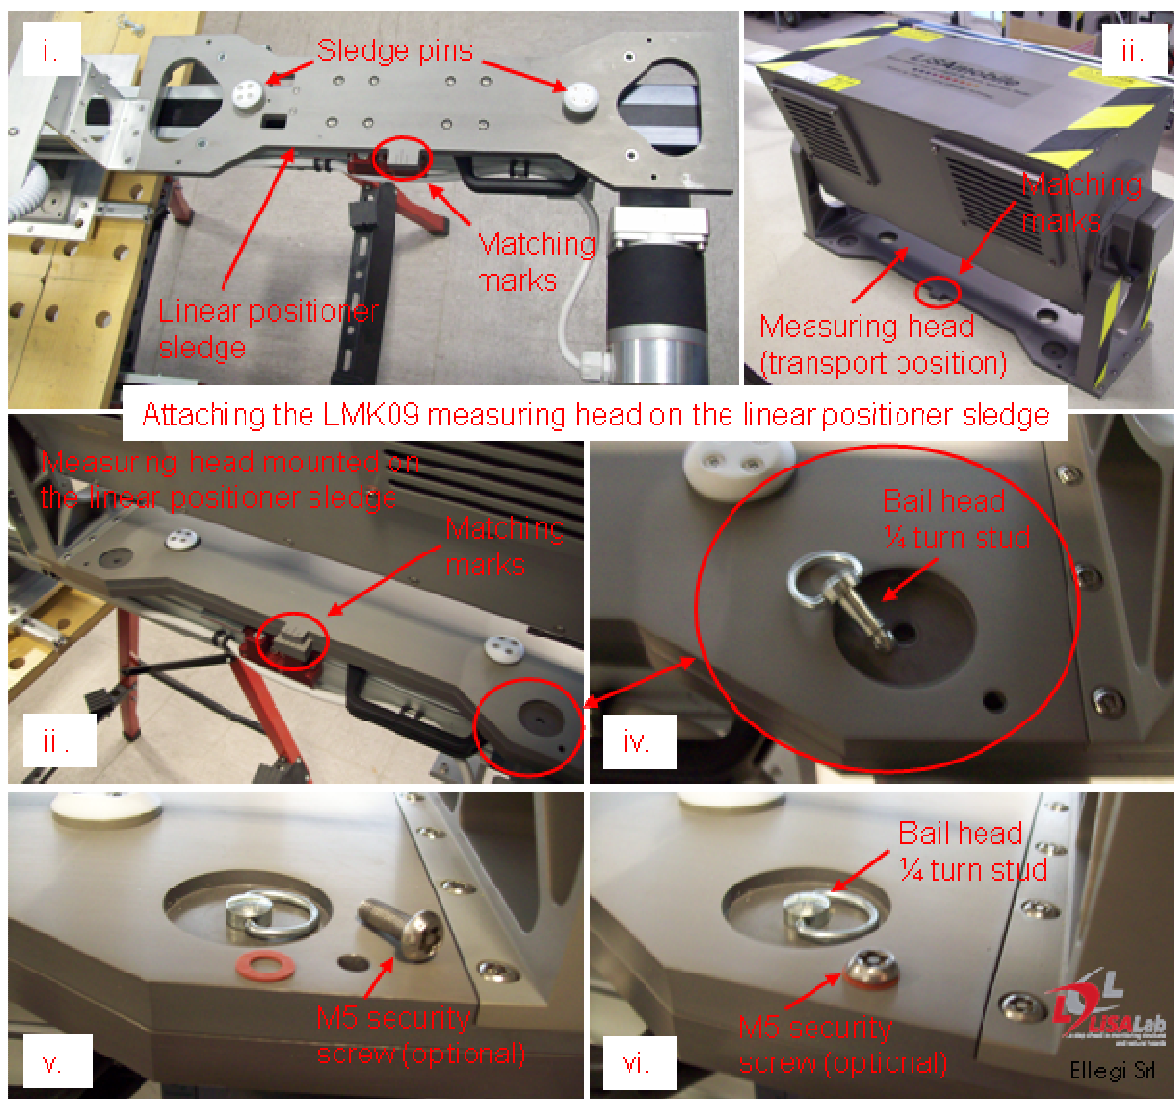

Figure 10: Step 4 of the installation procedure. Mounting the measuring head LM on the linear positioner sledge.
4. Mount the system measuring head (LM) on the linear positioner sledge (Figure 10). When the system is switched off, the measuring head should be kept in the “transport position”. On the linear positioner sledge there are two pins similar to the one found on the system counterplate that are used to match the sledge and the measuring head base plate. There are also three matching marks both on the sledge and on the measuring head base plate that must be aligned if the measuring head is mounted in the correct position. After having set down the measuring head on the linear positioner head it has to be secured with four bail head ¼ turn studs and optionally with four M5 security screws (always install the security screws with their o-rings).